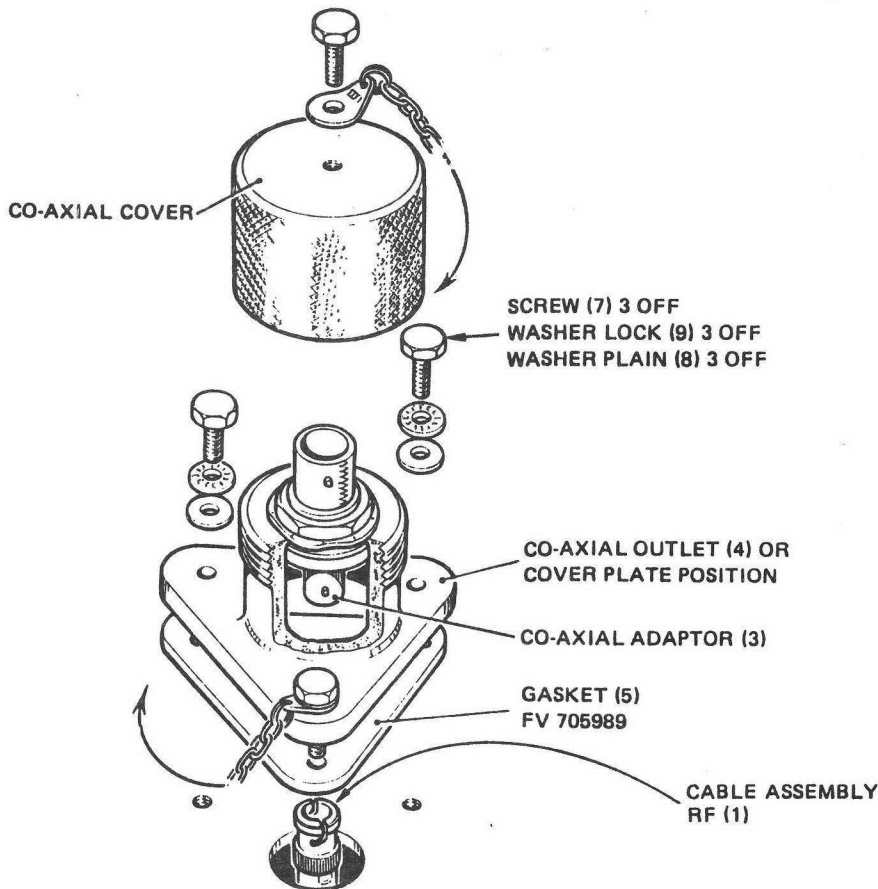

Fig 8 Co-axial assembly diagram
A co-axial outlet position is provided (Fig 1), on MK II vehicles only, in the 'A' set position to allow a remote antenna to be used with the installation. Fit the co-axial outlet on the forward r.h.s. exterior as per Fig 8. Numbers in brackets after item title refer to item numbers in Table 3.
13.6.3 Assemble a co-axial outlet as detailed in Fig 8.